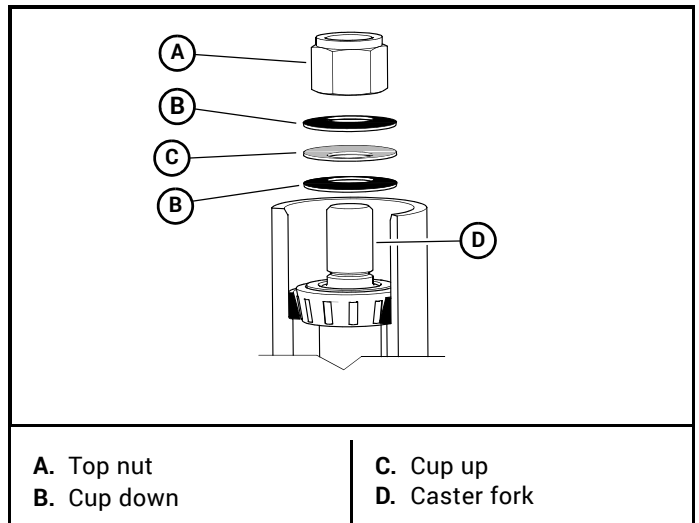

Figure 4-28
IMPORTANT: Stack the cup washers as shown in Figure 4-28.
12. Torque the top nut to 40 ft-lbs (55 N·m), then back off ¼ turn. Figure 4-28